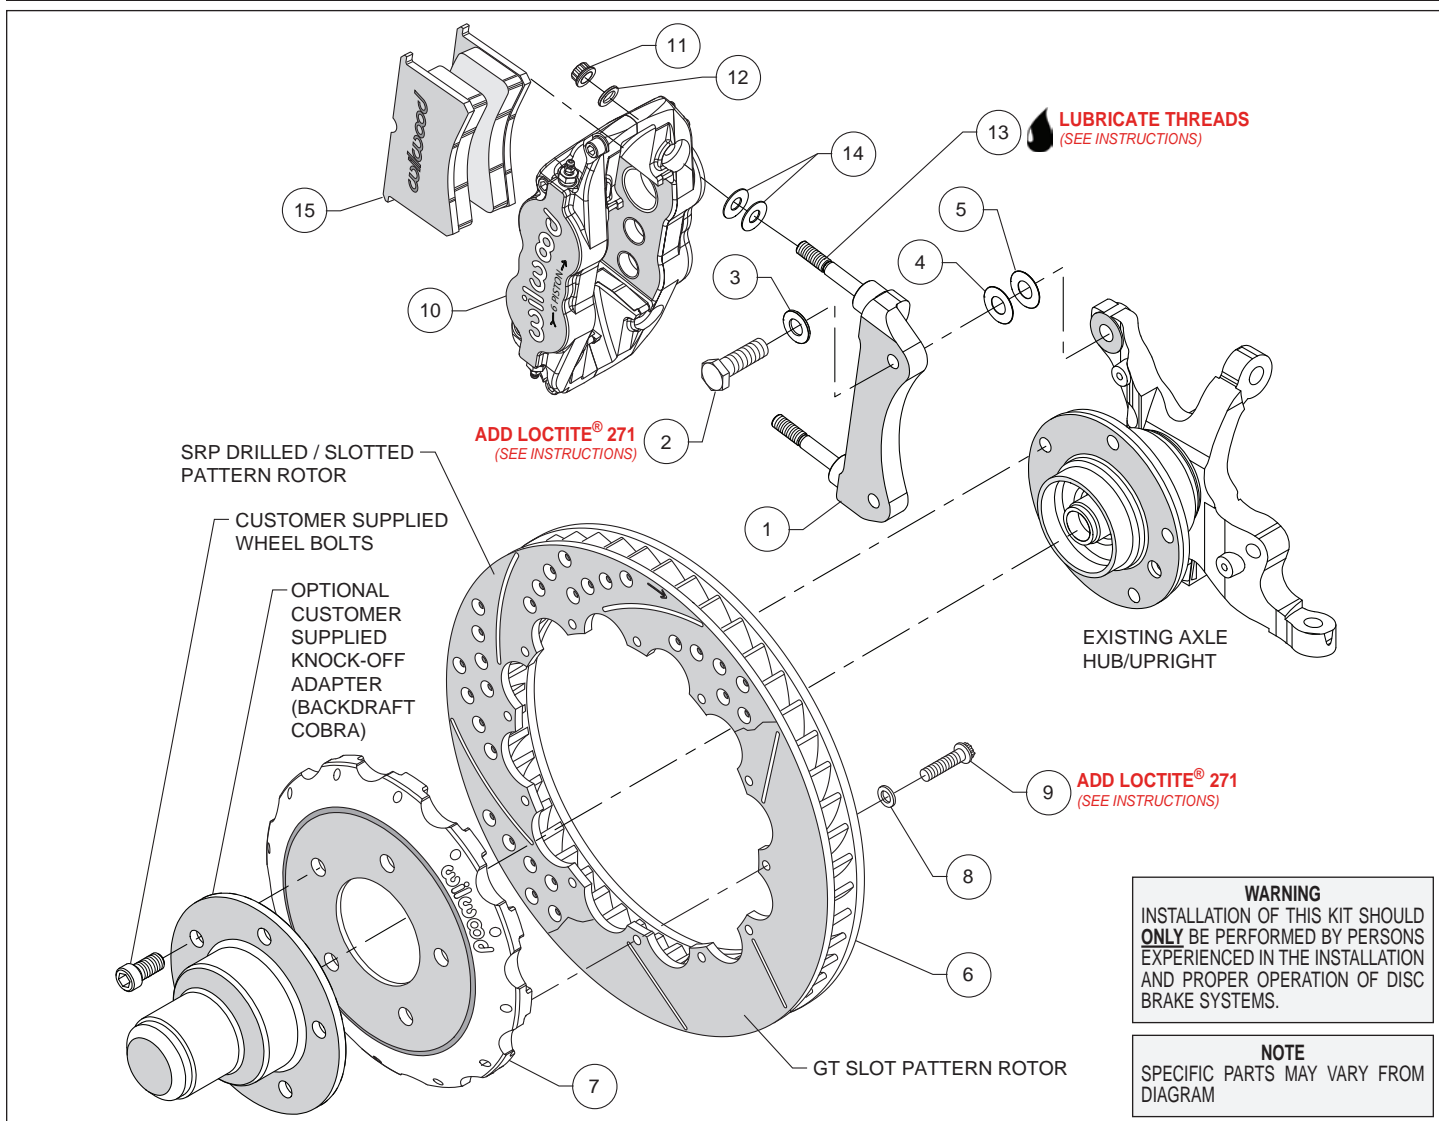

Figure 1. Typical Installation Configuration
**Assembly Instructions** (numbers in parenthesis refer to the parts list and Figure 1 on the preceding pages):
- The caliper mount bracket assembly (1) should initially be installed with clean, dry threads on the mounting bolts. Orient the bracket as shown in Figure 1 and install using mount bolts (2) and washers (3). Initially place one each .033" thick shim (4), and .015" thick shim (5) on each bolt between the bracket and upright, Figure 1. Temporarily tighten the mounting bolts. **NOTE: The bracket must fit squarely against the mount bosses on the backside of the upright.** Inspect for interference from casting irregularities, machining ridges, burrs, etc. Later, after the caliper alignment has been checked, the mount bolts will be secured using *Loctite*®.
- Orient the rotor (6) and the hat (7) as shown in Figure 1. Attach rotor to hat using bolts (9) and washers (8). Using an alternating sequence, apply red *Loctite*® 271 to the threads and torque bolts to 155 **in-lb**. For an added measure of security, the bolts may be safety wired using standard 0.032 inch diameter stainless steel safety wire as shown in Figure 5. Please refer to Wilwood's data sheet DS-386 (available at [www.wilwood.com/Pdf/DataSheets/ds386.pdf](http://www.wilwood.com/Pdf/DataSheets/ds386.pdf)) for complete safety wire installation instructions.
- Slide the hat/rotor assembly (6/7) onto the axle hub. **NOTE: The hat must fit flush against the axle hub or excessive rotor run out may result.** Install the optional customer furnished knock-off over the hat/rotor assembly as shown in Figure 1. Install three customer supplied wheel bolts (finger tight) to keep the hat/rotor and knock-off assembly in place while continuing with the installation.
- **NOTE: This kit contains distinct right and left hand calipers that must be mounted in a specific direction, as described below.** Lubricate the caliper mounting studs (13) with lightweight oil. Initially place two .035" thick shims (14) on each stud between the caliper and the bracket, as shown in Figure 1. Mount the caliper (10) onto the bracket (1) using lock nuts (11) and washers (12), Figure 1. Temporarily tighten the lock nuts. Ensure that the caliper is mounted so the largest pistons are at the rotor exit end of the caliper, in relation to the direction of the rotor. View the rotor (6) through the top opening of the caliper. The rotor should be centered in the caliper. If not, adjust by adding or subtracting shims (4 and/or 5) between the bracket and the upright. Always use the same amount of shims on each of the two mounting bolts. Once the caliper alignment is correct, remove the bracket mounting bolts one at a time, apply red *Loctite*® 271 to the threads, and torque to 65 ft-lb.
- Remove the caliper center bridge pad retainer bolt, nut, and tube from the caliper. Insert the brake pads (15) into the caliper, with the friction material facing the rotor, Figure 1. Check that the top of the brake pad is flush with the outside diameter of the rotor. If not, adjust by adding or subtracting shims (14) between the caliper and the bracket. After the caliper pad height is set, torque the caliper lock nuts (11) to 30 ft-lb. Secure the brake pads in place with the center bridge pad retainer tube, bolt, and lock nut. The locknut should be snug without play in the bolt or tube. Be cautious not to over tighten.